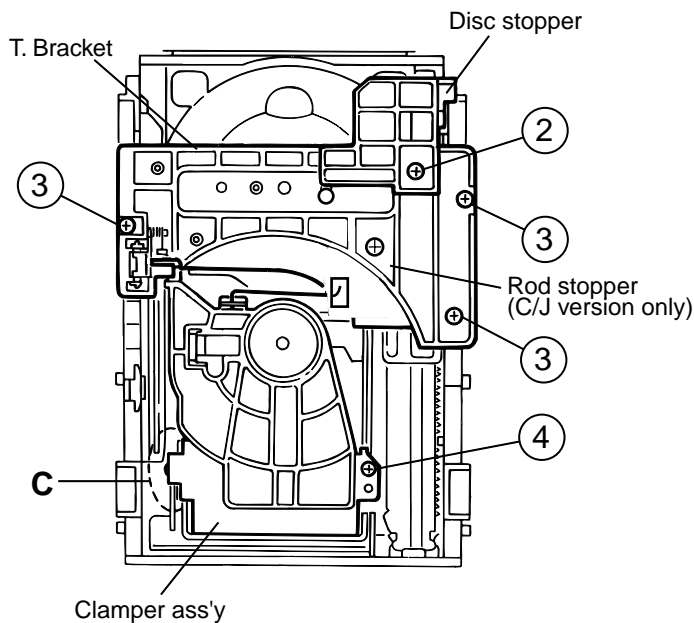

Fig.3
7. Remove the screw 4 retaining the clamber assembly. (See Fig.3)
8. From the bracket section "C", remove the clamber ass'y. (See Fig.3)